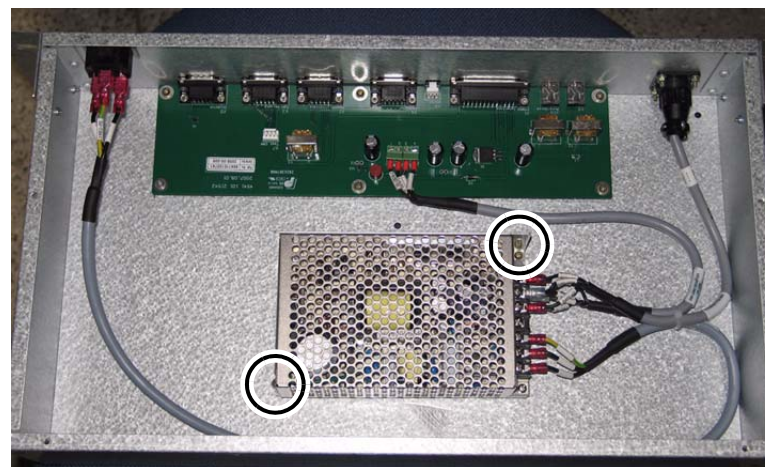

Figure 41: Switch Power Supply
6. Label the cables connected to the Switch Power Supply, and disconnect them from the 12V DC Switch Power Supply shown in Figure 41 on page 52.
7. Release the two screws shown in Figure 41 on page 52, which secure the Switch Power Supply.
2. Connect the power cable shown in Figure 41 on page 52.